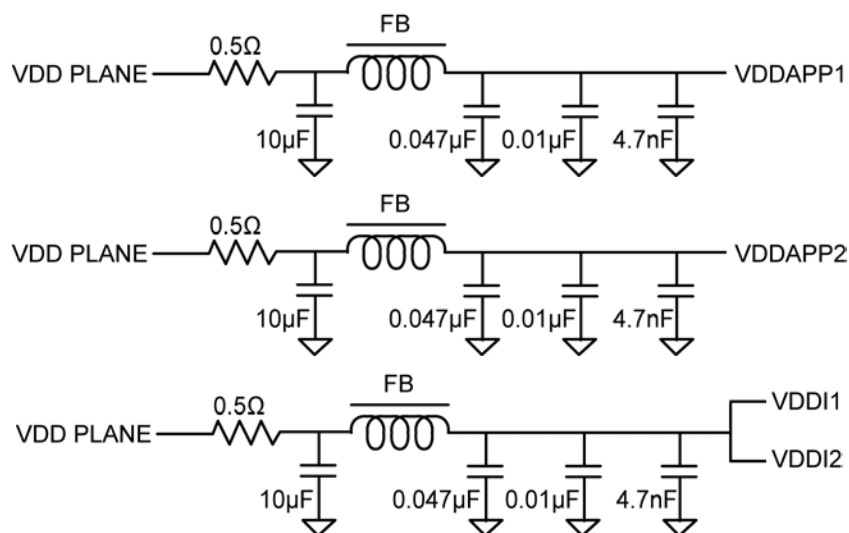

Figure 3. Recommended Power Supply Filtering
- Use the power supply filtering shown in Figure 3 for VDDAP1, VDDAP2, VDDI1 and VDDI2.